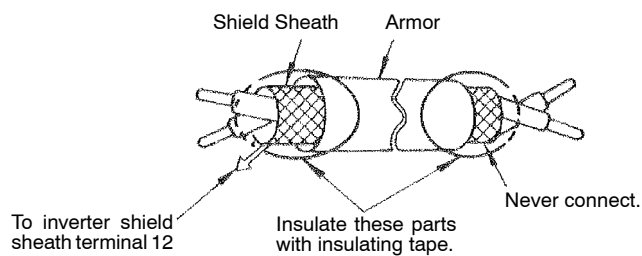

Fig. 17 Shielded Wire Termination
(2) Precautions on Control Circuit Wiring
- Use twisted shielded or twisted-pair shielded wire for the control circuit line and connect the shield sheath to the inverter terminal 12. See Fig. 17. Wiring distance should be less than 50 m.